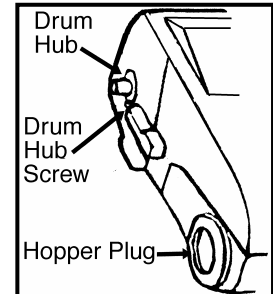

Figure 1
1. Remove the two (2) drum hub screws (Fig. 1) with a small jewelers screwdriver. Remove the third grounding screw (if present).